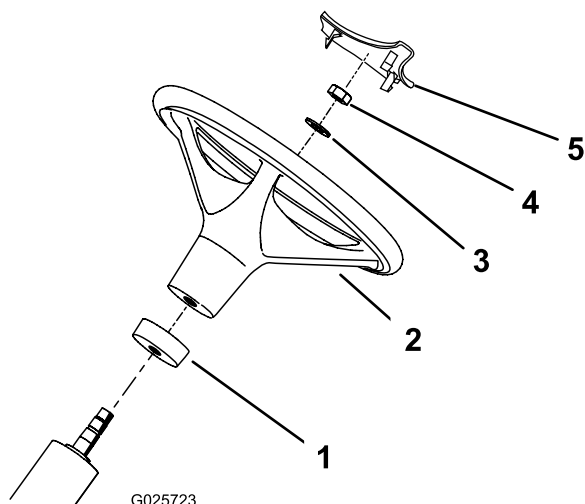

Figure 2
2. Slide the foam collar, small end first, onto the steering shaft (Figure 2).
3. Slide the steering wheel onto the steering shaft (Figure 2).
4. Secure the steering wheel to the steering shaft with a washer and locknut (Figure 2). Torque the locknut to 20–26 ft-lbs (27–35 N-m).
5. Install the steering wheel cover to the steering wheel (Figure 2).